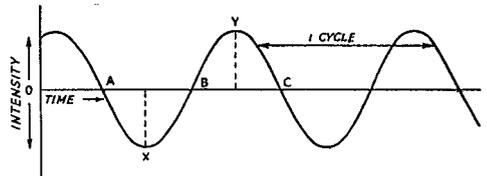
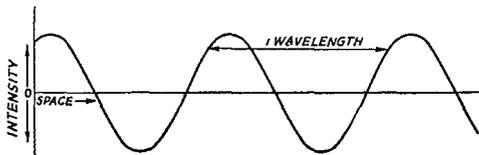

Fig. 1 → Sine-curve representation of intensity variations in a wave field with time, at a fixed observing point.
Fig. 2 — By changing the label on the horizontal axis, the sine curve can be made to represent intensity variations in space at a fixed instant of time.
Fig. 1 — Block diagram of proposed receiver layout at W6OVK. A dual i.f. amplifier, complete with a.m., f.m. and a b.f.o., will permit the desired i.f. amplifier to be connected to any one of the several front-end converters. Directional antennas for the various bands will be permanently connected to these converters.
Fig. 2 — Operation of an amateur station from inside a photography darkroom. The shack is next door to the darkroom as shown in (A) and contains a foot pedal-operated press-to-talk switch, a microphone and a speaker. A remote-local switch in the operating room cuts in the darkroom or ham shack control circuit as shown in (B). R_{Y1} turns on the transmitter and R_{Y2} cuts off the receiver when either S_1 or S_3 are closed.
Everyone who has done a little reading on radio knows that an electromagnetic wave in space consists of traveling fields of electric and magnetic force. The two fields are separate but not independent, and go through identical variations with time when viewed at a fixed point in space. In the case of a "pure" wave, or one involving only a single frequency, these time variations follow a sine curve; hence we draw (as in Fig. 1) the same curve to represent them that we use to show the variation with time of an alternating current. In the case of the alternating current, the ordinate above the zero axis commonly would be labeled
As applied to a wave, Fig. 1 says that the field (either one, electric or magnetic) exerts its force in some unspecified direction whenever the curve is above the axis and that this direction is reversed whenever the curve is below the axis. The curve does not show the *actual* direction; it has no means of doing so. By definition, the direction of an electric field of force is the direction in which a small positive charge would move when placed in the field; similarly, the direction of a magnetic field is the direction in which a small north pole would move in the field.
By changing the label on the horizontal axis from "Time" to "Space," as in Fig. 2, we can get a different interpretation from the same curve. Now we assume that instead of making our observation at a fixed point in space and letting time run on, we take an instantaneous snapshot of the intensity variations in the field as they are distributed along a line parallel to the direction in which the wave is moving. If we could make time stand still while we moved along such a line measuring the field intensity, the value of the field at any point along the axis would be proportional to the height of the curve above or below the axis at that point. Again we should find a periodic reversal in direction. However, the curve merely says that the direction reverses; it does not say what the direction is. The distance between any two points having the same direction and intensity is equal to the wavelength of the wave, as shown on the drawing. But obviously the curve does not give an actual picture of the wave — no more than it did with the different label in Fig. 1.
tion, which is the direction of the line itself. The magnetic lines surround the conductors of the parallel line, and form concentric circles between the conductors of the coaxial line; they are everywhere perpendicular to the electric lines and to the direction of propagation. This is shown in Fig. 4. The intensity of the fields varies along the line at any instant just as in the case of the space wave whose intensity-space variation is shown in Fig. 2, and the intensity varies with time at a given point as shown in Fig. 1.
A simple graphical approach to this requires still another method of depicting the wave. Suppose that the sine curve of Fig. 2 showing the space distribution of the field intensity at a given instant is imagined to exist in three dimensions, resembling corrugated paperboard or a corrugated tin roof. Then Fig. 2 is a view of the edge, and a rough indication of the top view of the curve is given by Fig. 8, where a thin line represents a null, a solid heavy line a positive maximum and a dashed heavy line a negative maximum. Keep in mind that the lines in this method of representation are not lines of force (that is, they do not show the direction of the field) but simply mark the regions in space where maxima and nulls exist. We are looking down on the wave in much the same way that we can look down on ripples in a stream from the vantage point of a bridge. The direction of travel is perpendicular to the lines of maxima and minima, just as the direction of travel of water waves is perpendicular to the "ridges" in the water. The distance between any two adjacent lines in the direction perpendicular to them is a quarter wavelength, between any two alternate lines a half wavelength, and so on.